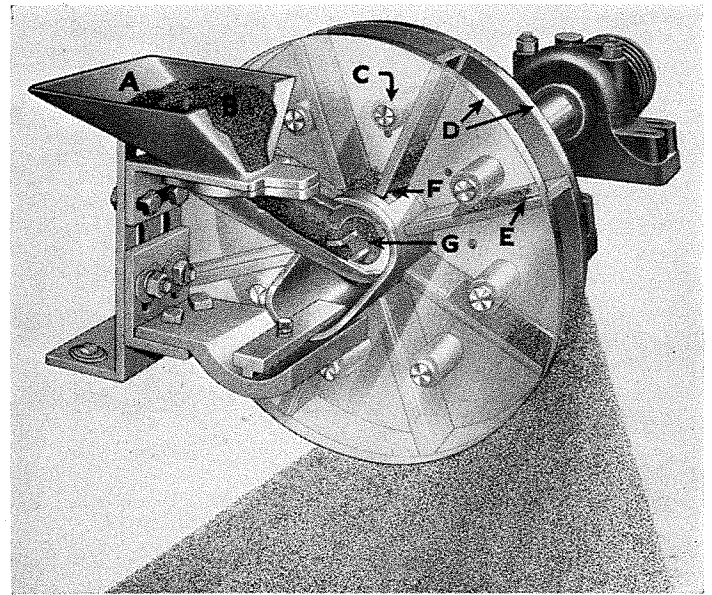

Fig. 1
A cast-alloy impeller (A), (see Fig. 1) rotates with the wheel proper and carries the abrasive to an opening in the stationary control cage (B), where it discharges to the bladed section of the wheel. At this point, the abrasive is picked up by the inner ends of the throwing blades (C) and is gradually accelerated in its passage to the periphery of the wheel. The final throwing velocity is the resultant of radial and tangential forces. This means that the blast utilizes all of the power supplied to the Wheelabrator.